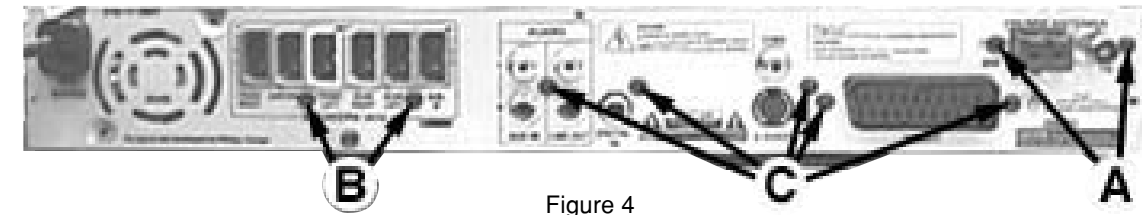

Figure 4
- 1) Loosen 2 screws A (see Figure 4) to remove the Tuner Module (pos 1105).
- 3) Loosen 2 screws B (see Figure 4) to remove the Speaker Connector Board (pos 1102).
- 5) Loosen 5 screws C (see Figure 4) and uncatch 2 catches C3 (see Figure 7) to remove the AV Board (pos 1101).